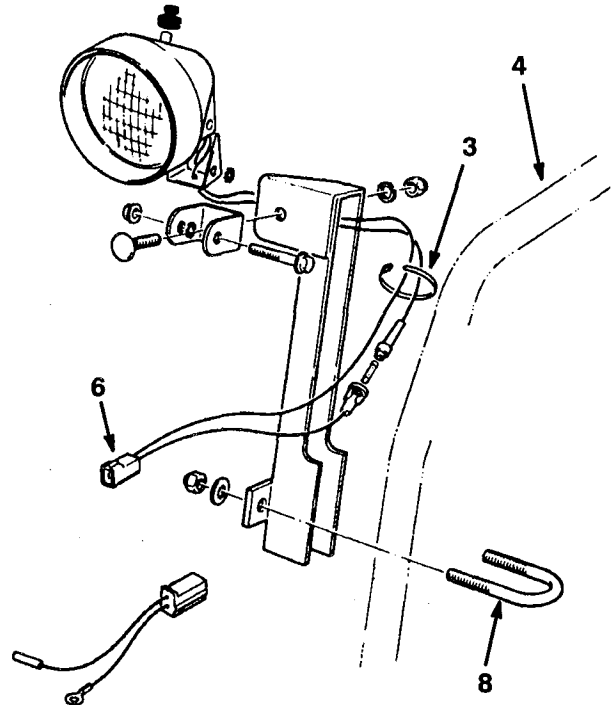

Figure 1
1. Cut the cable tie and disconnect the lamp wire connector from the jumper wire connector (Fig. 1).
2. Remove the hex nut and lock washer holding the U-bracket to the lamp mount and remove the U-bracket and attached lamp assembly from the lamp mount (Fig. 1).
3. Remove the two locknuts and flat washers from the U-bolt and remove the lamp mount from the snowthrower handle (Fig. 1).